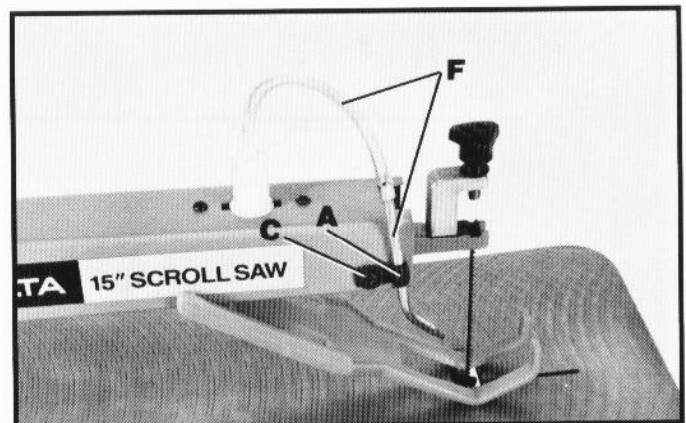

Fig. 11
7. Fig. 11, illustrates the chip blower assembly assembled to the machine.
8. Depending on the thickness of the workpiece, chip blower assembly (F) Fig. 11, can be adjusted for effective chip removal by raising or lowering brass pipe inside bracket (A). Tighten screw (C) after adjustment is made.